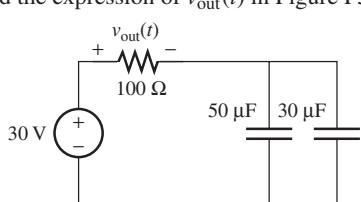

FIGURE P5.30 Circuit for Problem 5.30.
- 5.30 (A)** Find the expression of $v_{\text{out}}(t)$ in Figure P5.30.